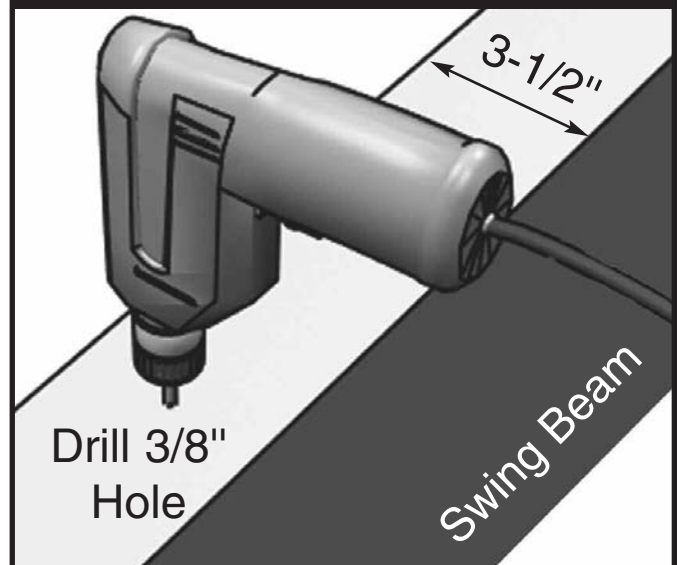

Fig. 21
2. Place one (1) Wood Loc Washer on each Carriage Bolt with tangs facing downward.
3. With a hammer tap bolts through drill holes in Swing Beam until Tangs sink fully into the wood as shown in **(Fig. 21)**.